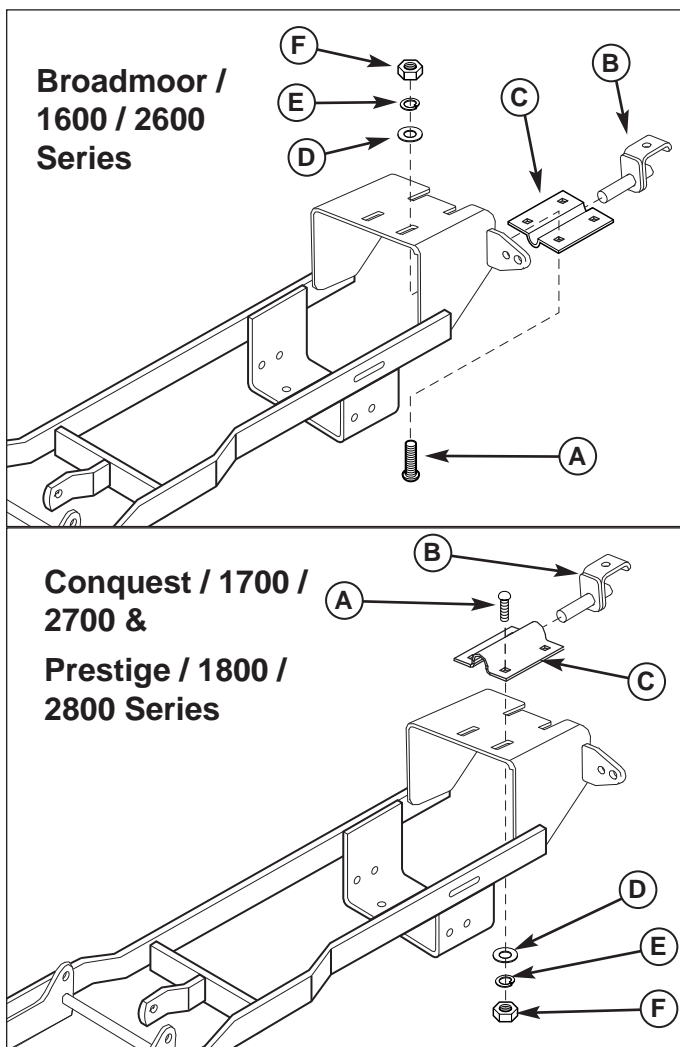

Figure 2. Install Support Clamp
1. Attach the support clamp (C, Figure 2) and hook assembly (B) to the hitch. Secure with four 5/16-18 x 1 carriage bolts (A), washers (D), lockwashers (E), and nuts (F). Do not tighten the hardware at this time.